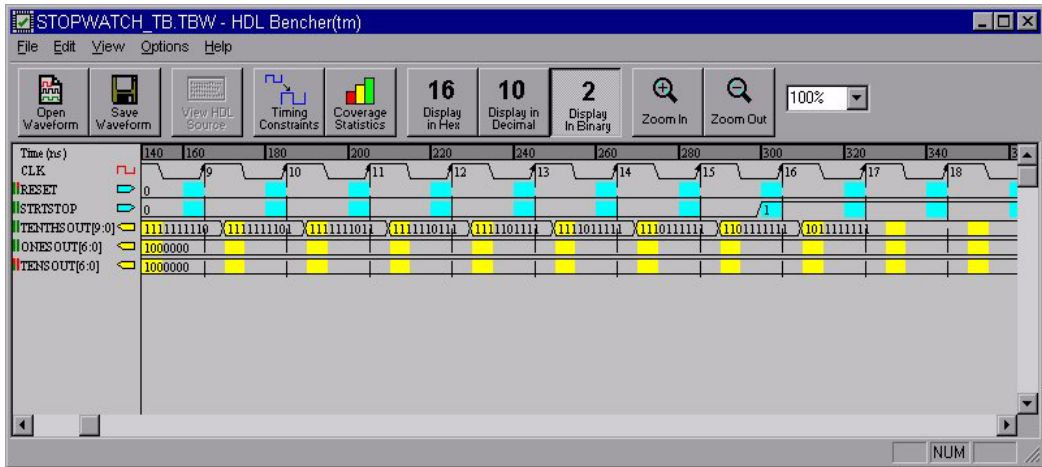

Figure 3-2 Expected Response
5. Using the scroll-bars and Zoom In/Out toolbar icons, compare your new waveform to the one in Figure 3-2.